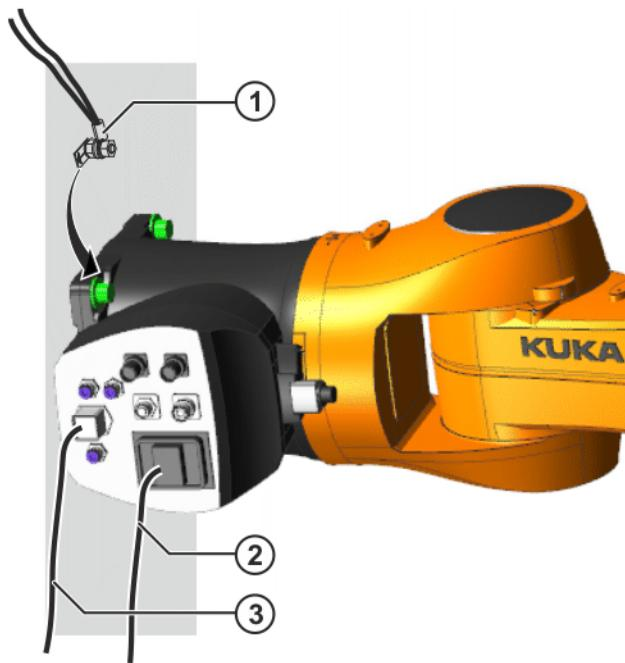

Fig. 8-9: Connecting the cables
20. Connect motor cable X30 and data cable X31 (**>>> Fig. 8-9**).